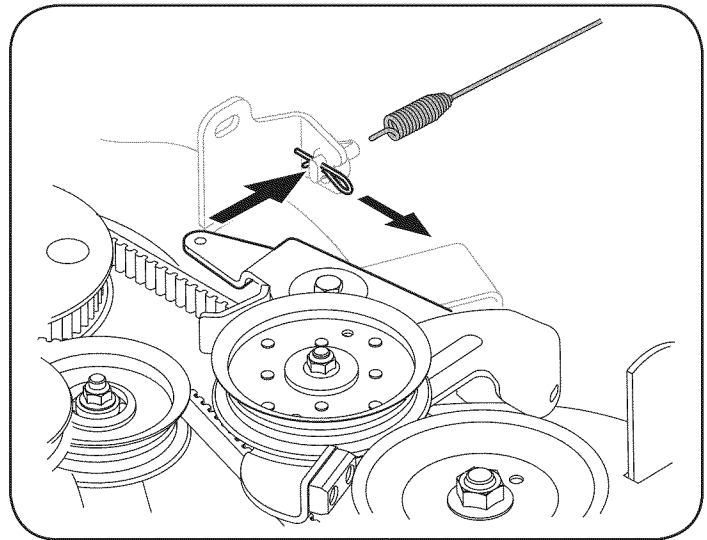

Figure 29
13. Pull the click pin out and unhook the drive spring cable from the idler arm assembly. See Figure 29.